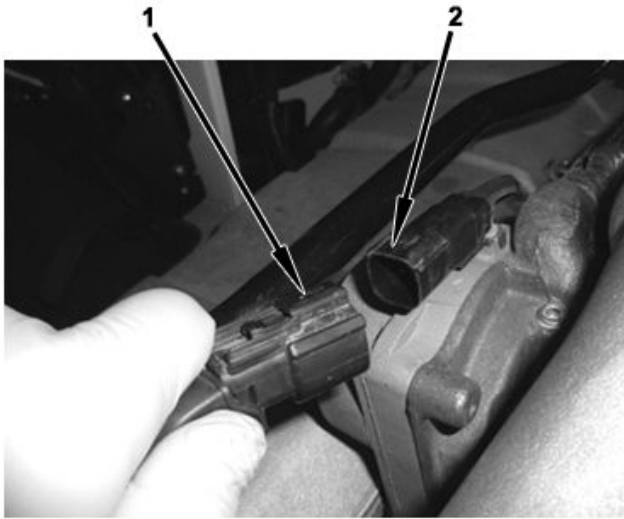

Figure 43. EGR Valve Engine Harness Connector.
24. Connect engine harness (Figure 43, Item 1) to EGR valve engine harness connector (Figure 43, Item 2).